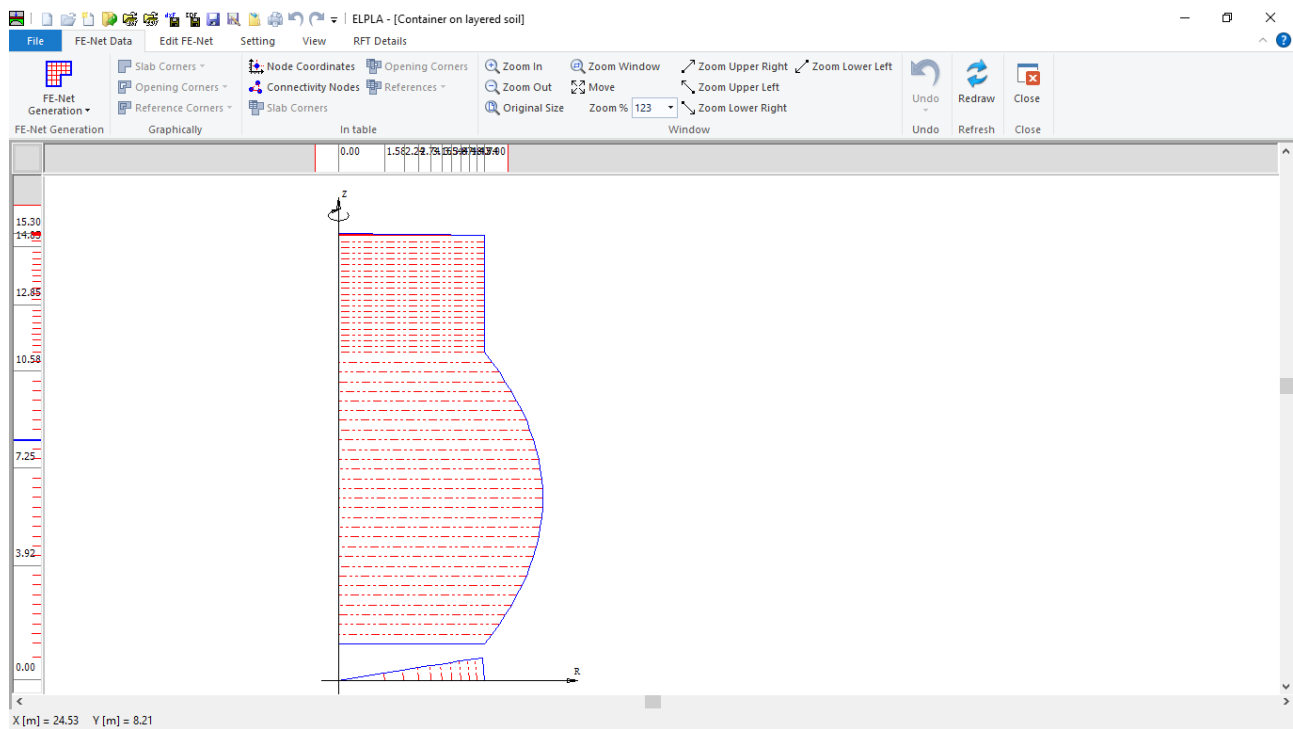

Figure 12.11 Generated FE-Net
*ELPLA* will generate the FE-Net of the container with a sector from the base with 10 circular intervals. The following window in Figure 12.11 appears with the generated net.
- Choose "Save" command from "File" menu in Figure 12.11 to save the data of the FE-Net
- Choose "Close" command from "File" menu in Figure 12.11 to close the "FE-Net" window and return to *ELPLA* main window